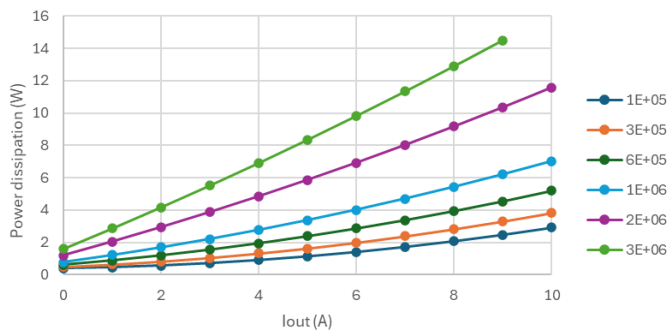

Figure 3: Typical power dissipation vs. output current, switching frequency;  $T_j=125C$ ,  $V_{dd}=28V$ ,  $deadtime=40ns$
The EPC7011L7SH is designed to be a high-speed power driver. As such it has extremely fast switching node (SN) rise and fall times by design. Fast rise and fall times can and will result in undesirable voltage spikes at the SN pin due to any parasitic layout inductance. If these spikes cannot be reduced to an acceptable level through PCB layout and decoupling optimization, two resistors may be added to increase the damping to the local supply loop. These resistors,  $R_{SD1}$  and  $R_{SD2}$  are shown in Figure 3.